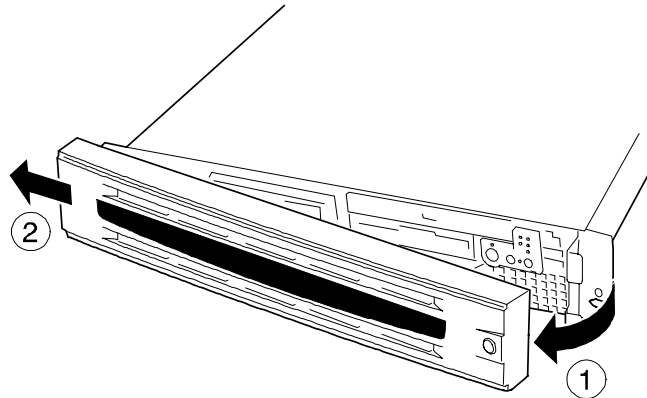

Figure 2-31. Opening the Front Bezel
1. Release the security lock, open and remove the front bezel. See Figure 2-31.